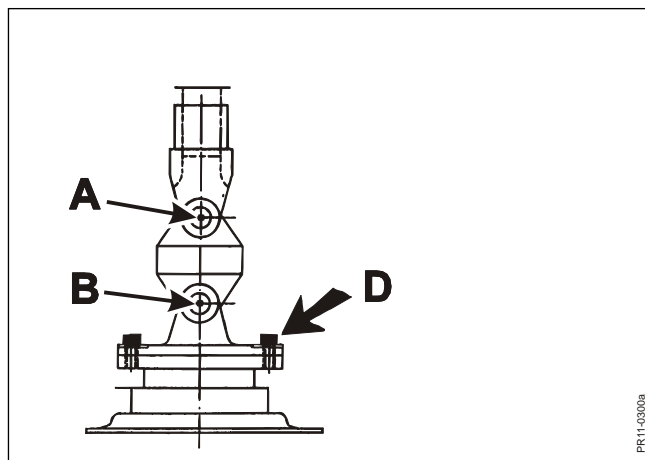

Fig. 5-9
**Fig. 5-9** The PTO for the cutter bar should run with minimum angular deviation. Therefore a special tool is available (JF-STOLL part number 6000-783x) which is used for placing the bevel gearbox precisely in relation to the cutter bar.